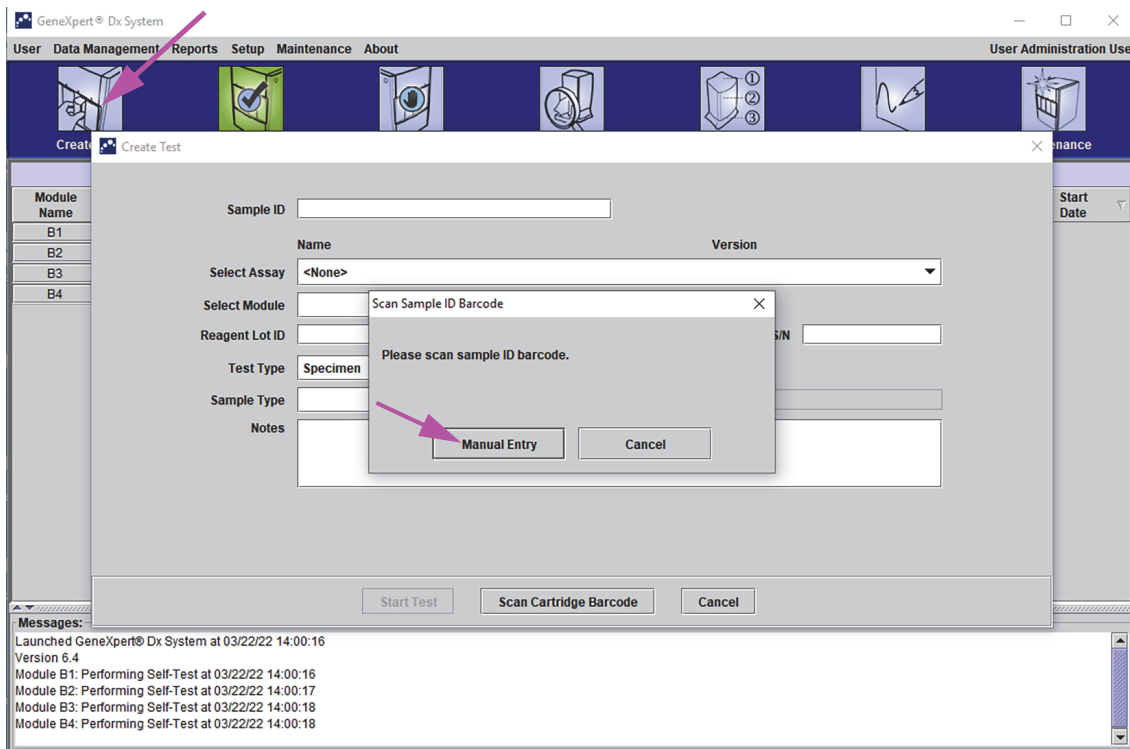

Figure 5-17. Create Test Window and Scan Sample ID Barcode Dialog Box
1. On the GeneXpert Dx System window, click **Create Test** on the menu bar. The Scan Sample ID dialog box appears. See Figure 5-17.